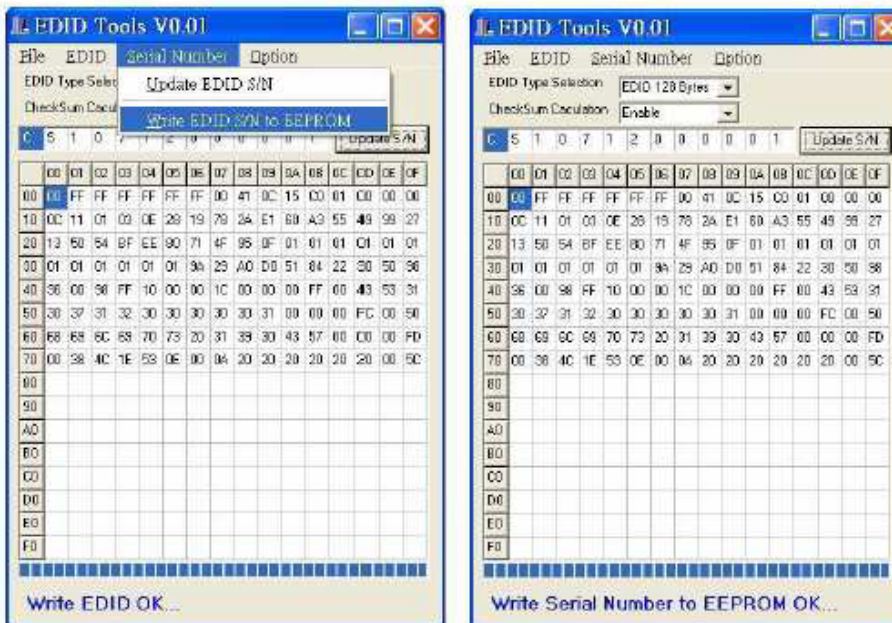

Fig.10
7. Enter Factory Mode then Press the Serial Number->Write EDIDS/N to EEPROM as shown in Fig.10
- Press Monitor Menu Key to check OSD Serial number is the same as PI-EDID write data as shown in Fig.10